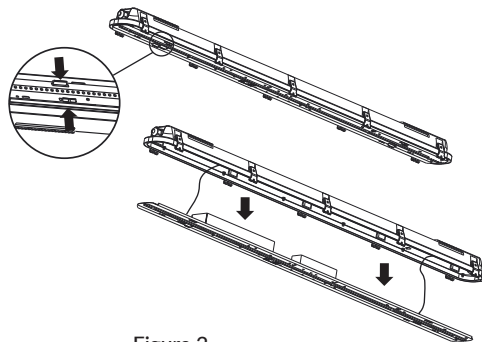

Figure 2
2. Pinch the gear tray retaining clips and release the gear tray, allow it to hang from fixture. Ensure the safety cables are securely fastened between the gear tray and fixture housing. (Figure 2)